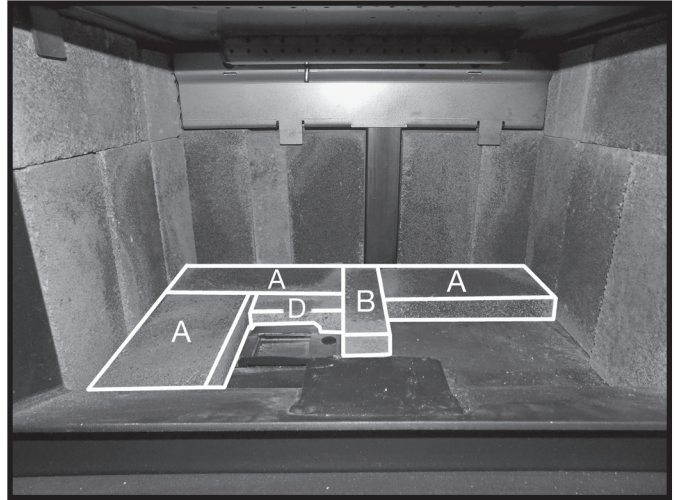

Figure 20: Left side A brick and D brick behind ash dump.
7. Place an "A" brick in front of the left side "A" brick located at the rear of the firebox floor and slide it back so that both "A" bricks are touching. Then place one "D" brick behind the ash dump and between the "A" brick and "B" brick (Figure 20).